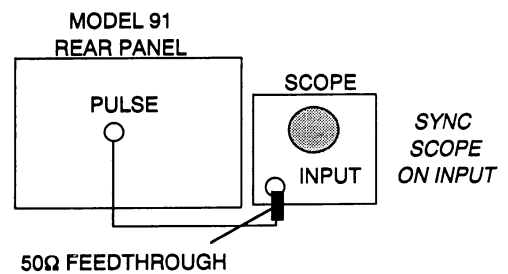

Figure 4-19. Pulse Width Setup
1. The Model 91 displays **WIDTH 10.0 NS HXX**. Connect the test equipment as shown in figure 4-19.
1. The Model 91 displays **AWDTH 20.0 NS HXX**. Connect the test equipment as shown in figure 4-19.
1. The Model 91 displays **DWIDTH 20.0 NS HXX**. Connect the test equipment as shown in figure 4-19.
1. The Model 91 displays **DWIDTH 30.0 NS HXX**. Connect the test equipment as shown in figure 4-19.